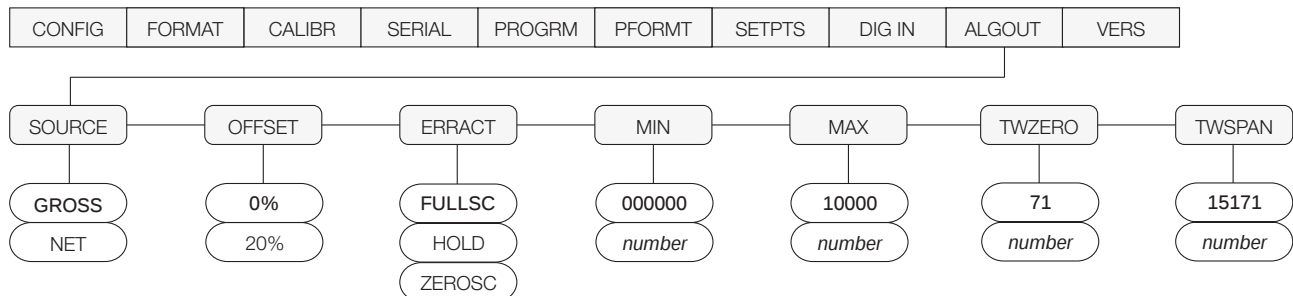

Figure 10-5. Analog Output Menu
1. Enter setup mode and go to the ALGOUT menu (see Figure 10-5):